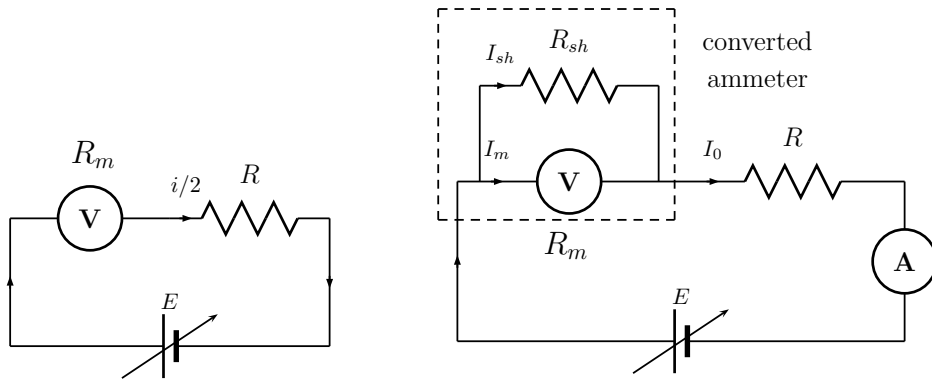

Fig 2. (a) Circuit for determination of voltmeter resistance, (b) circuit for using the voltmeter as ammeter.
Fig 2(a). Let R_m be the internal resistance of the voltmeter, and when $R = 0$ the voltmeter reading is V_m , the current through the circuit is $i = V_m/R_m$. But when $R \neq 0$ and the voltmeter reads $V_m/2$, the current in the circuit reduces by half implying $i/2 = V_m/(R + R_m)$. The voltmeter resistance R_m is given by,
1. The first step to convert a voltmeter to an ammeter is to determine the resistance R_m of the voltmeter. Make the circuit connections as shown in Fig 2(a).
4. Calculate the shunt resistance R_{sh} and fabricate the circuit shown in Fig 2(b). Use a digital ammeter or a multimeter, set to appropriate range, as the standard ammeter.